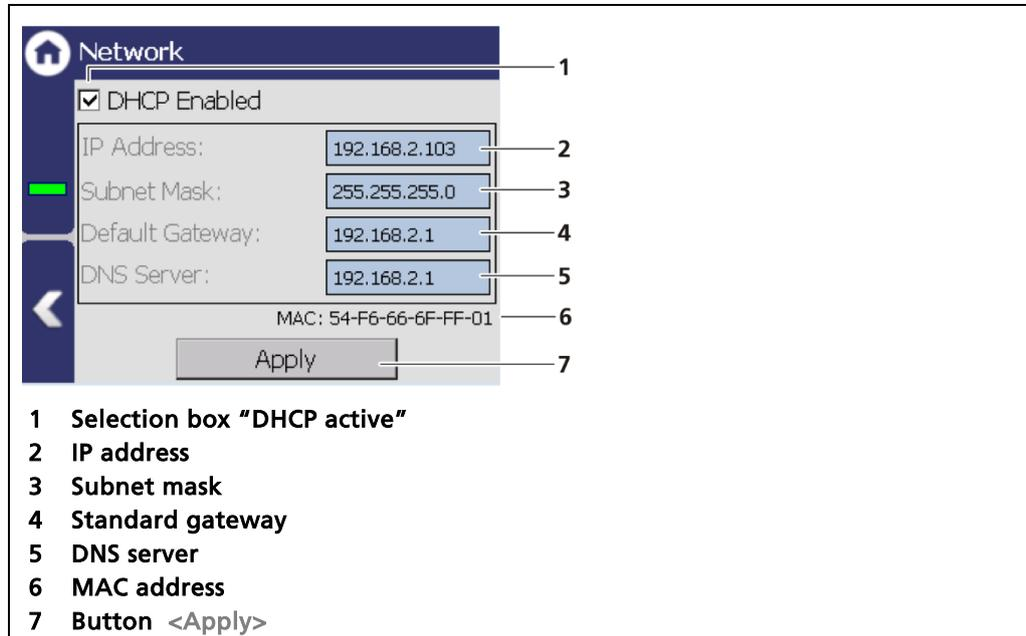
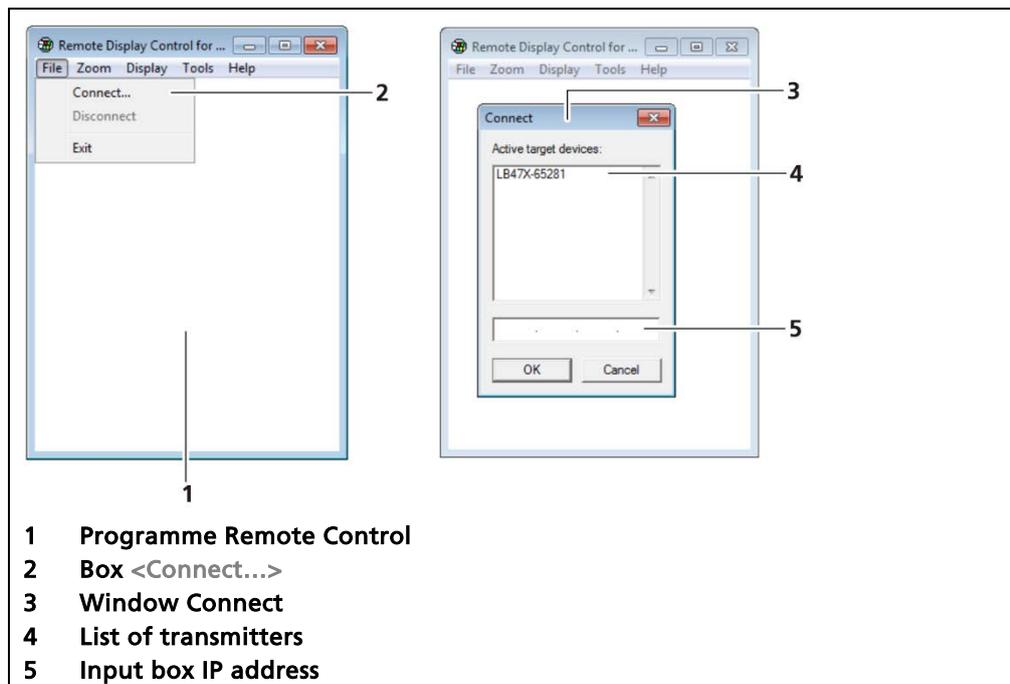

Fig. 55 Network settings
Fig. 56 Establishing connection to the EVU using the RC software
You can set the network address either manually or using DHCP (automatic assignment). To do this, check the "DHCP active" selection field (Fig. 55, item 1).
In the event of an automatic assignment of the IP address by a DHCP server, you can only look at the given IP address. A modification of the IP address is not possible. On this side, you can also read the MAC address of the device (Fig. 55, item 6).
1. Click on the text field (Fig. 55, item 2 - 5) to open the input field.
4. Click on <Apply> (Fig. 55, item 7) to adopt the network settings.
- ▶ The window of the program opens (Fig. 56, item 1).
2. Click on the <File> tab and then on <Connect...> (Fig. 56, item 2), to establish a connection to the EVU.
- ▶ A new window "Connect" is opened (Fig. 56, item 3) and the connected transmitters are listed.
The IP address of the EVU must be in the same sub-network (Fig. 55, item 3) as the network adapter of the computer (see previous Chapter "Network").
3. Click on the identifier of the transmitter (Fig. 56, item 4) or enter the IP address of the EVU in the input box (see Fig. 55, item 2).